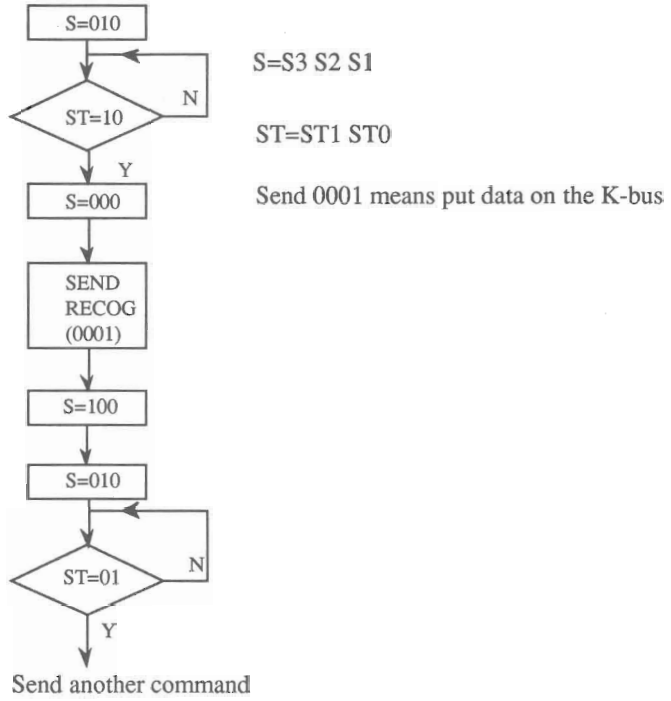

Fig 1. Control flow of the CPU mode for recognition.
When HM2006 receives the command RECOG, the chip will begin its recognition process. The external device can be polling the status flag to monitor the operation state of HM2006. When the operation state is changed to (01), and WAIT pin is "L", HM2006 will back to the operation state (10) and then ready for receive another command. When the operation state is change to (01) and WAIT pin is "H", it is ready to get voice input and then do the recognition process. When the operation state is changed back to (10) again, then the recognition process is completed and HM2006 is ready to get another command. The programming flow chart is shown in Fig. 1.